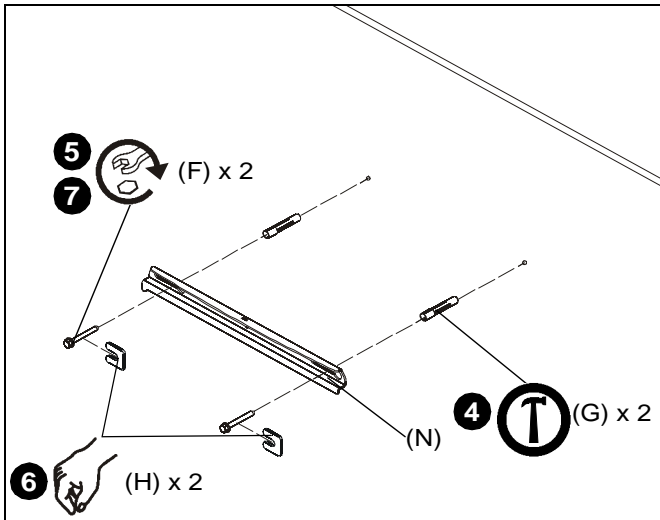

Figure 7
4. Install two concrete anchors (G) into two drilled holes. (See Figure 7)
5. Loosely attach wall rail (N) to wall by installing two 5/16- 2 1/2 flange head lag screws (F) into concrete anchors (G). (See Figure 7)
6. Place two installation spacers (H) over two 5/16 x 2 1/2" flange head lag screws (F). (See Figure 7)
7. Tighten two screws to secure upper wall rail (N) to wall. (See Figure 7)